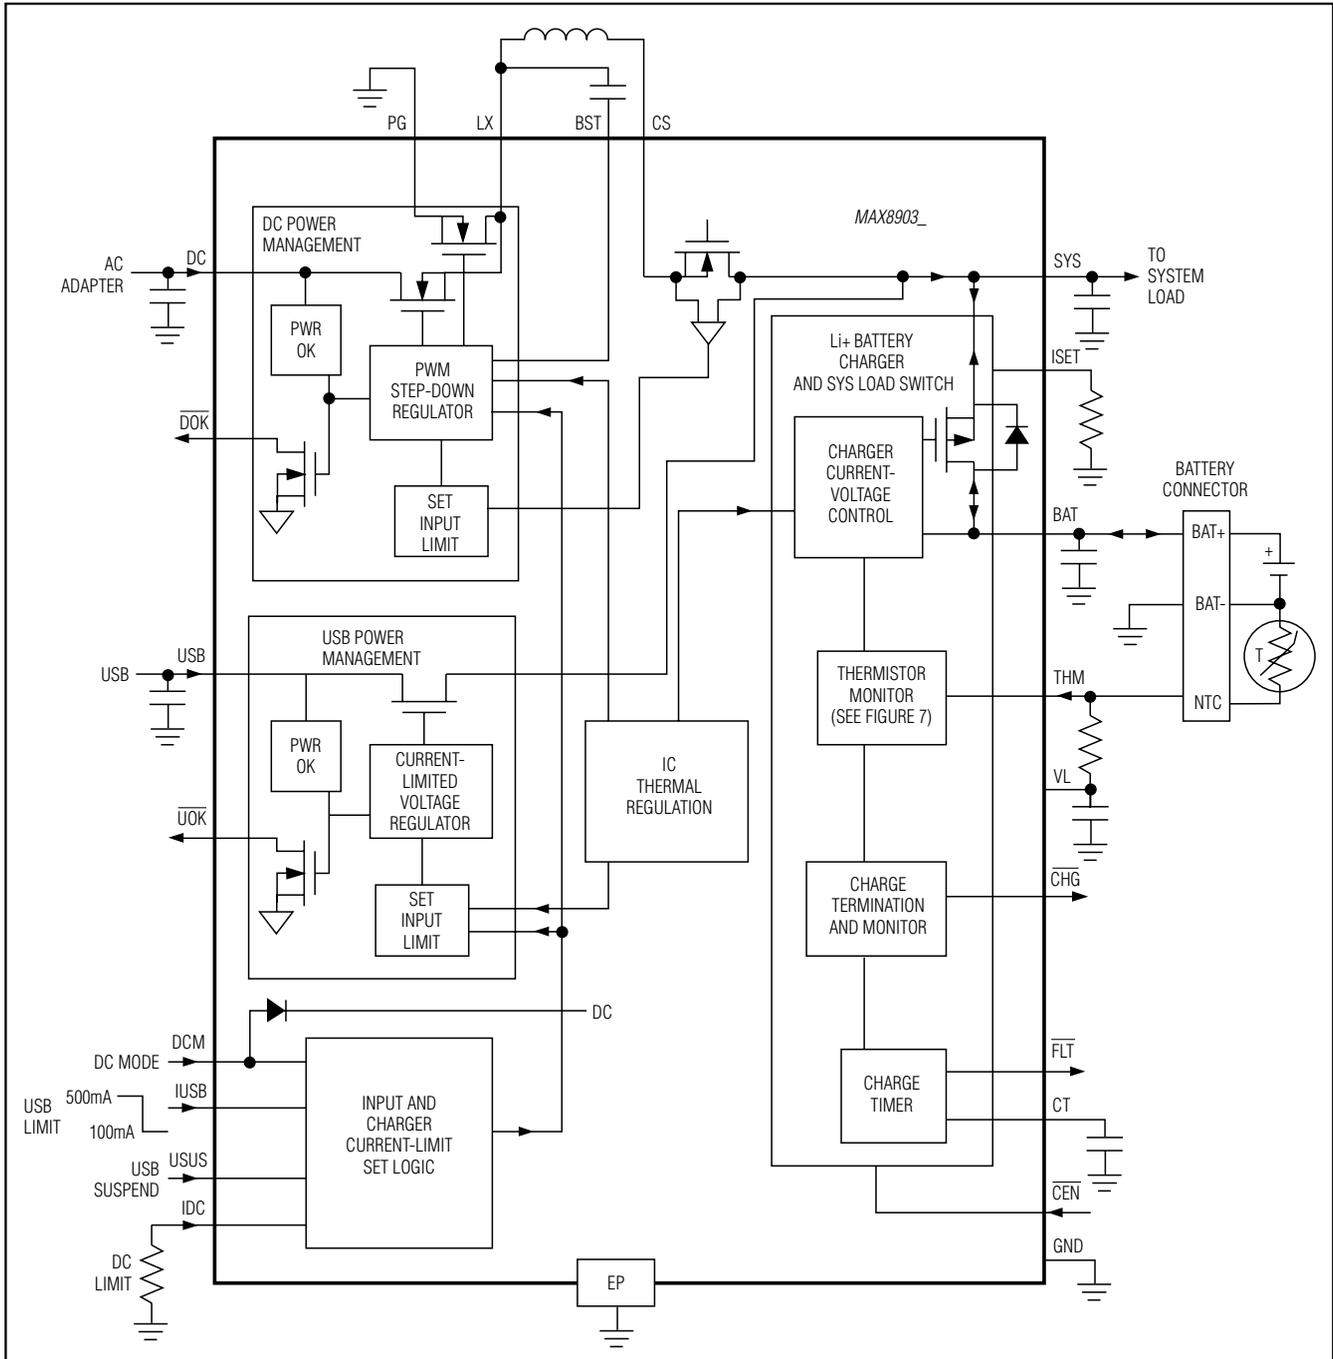
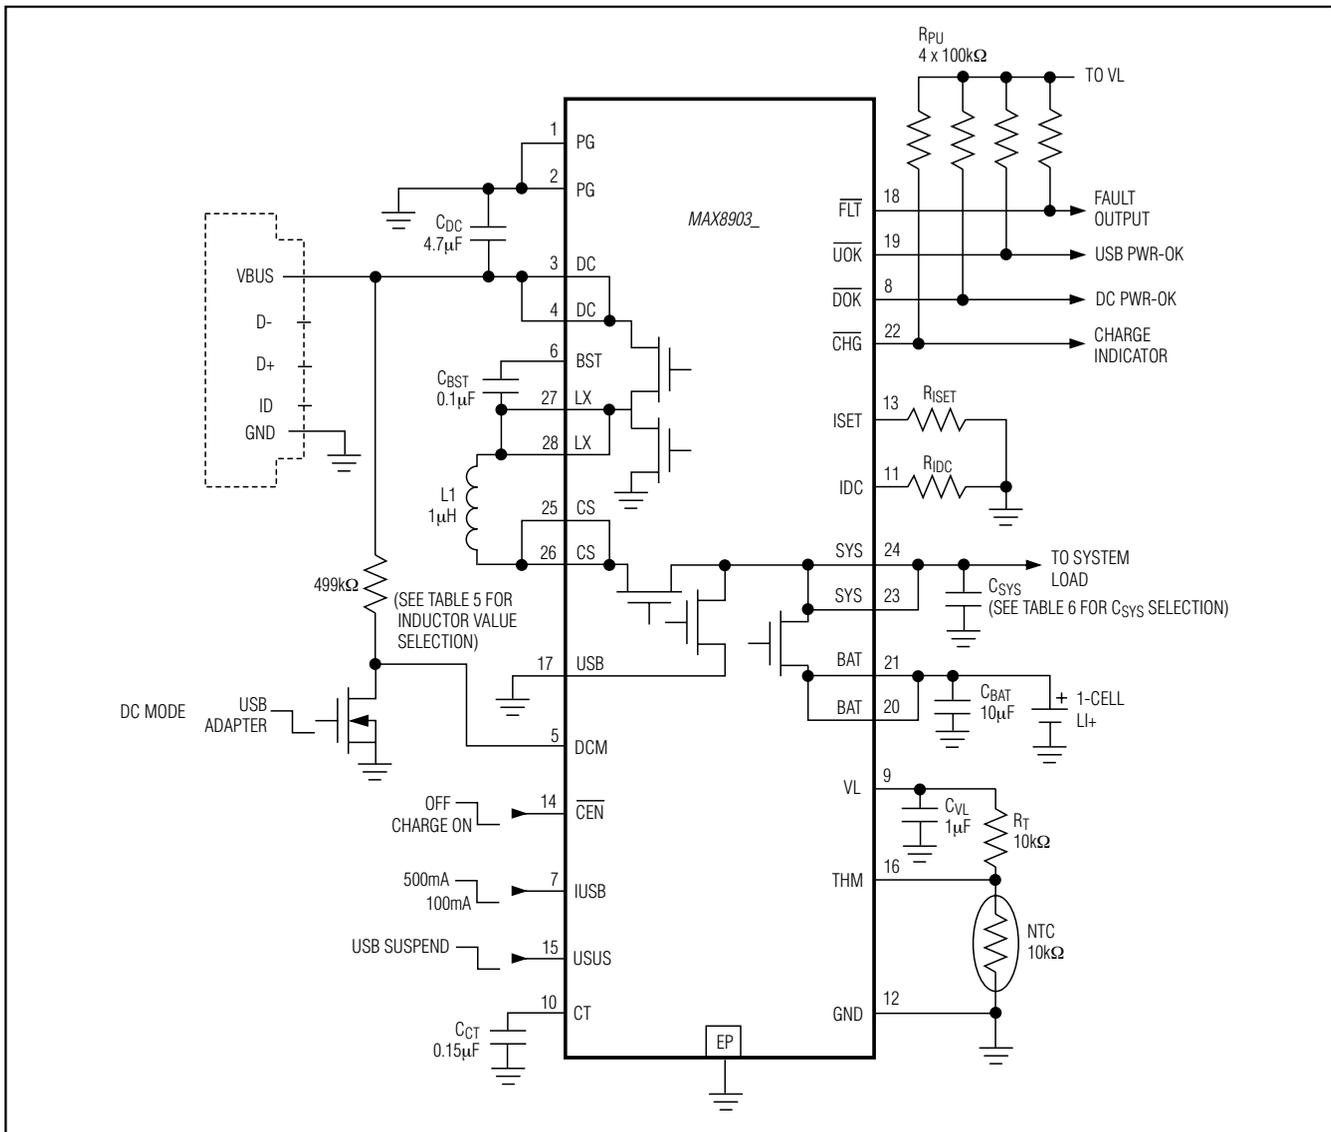

Figure 1. Functional Block Diagram
Figure 3. Typical Application Circuit Using a Mini 5 Style Connector or Other DC/USB Common Connector
As shown in Figure 1, the IC includes a full-featured charger with thermistor monitor, fault timer, charger status, and fault outputs. Also included are power-OK signals for both USB and DC. Flexibility is maintained with adjustable charge current, input current limit, and a minimum system voltage (when charging is scaled back to hold the system voltage up).
The DCM pin has an internal diode to DC as shown in Figure 1. To prevent current from flowing from DCM through the internal diode and to the DC input, DCM cannot be driven to a voltage higher than DC. The
circuit of Figure 3 shows a simple MOSFET and resistor on DCM to prevent any current from flowing from DCM through the internal diode to DC. This circuit of Figure 3 allows a microprocessor to drive the gate of the MOSFET to any state at any time.
An alternative to the simple MOSFET and resistor on DCM as shown in Figure 3 is to place a $1M\Omega$ resistor in series with the DCM input to the microprocessor. The microprocessor can then monitor the \overline{DOK} output and make sure that whenever \overline{DOK} is high DCM is also low. In the event that DCM is driven to a higher voltage than DC, the $1M\Omega$ series resistance limits the current from DCM through the internal diode to DC to a few μA .
*** There is an internal diode from DCM (anode) to DC (cathode) as shown in Figure 1. If the DCM level needs to be set by a μP , use a MOSFET for isolation as shown in Figure 3.